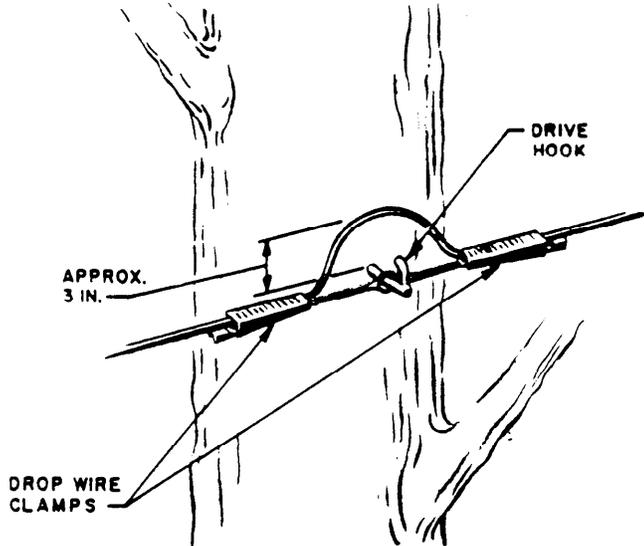

Fig. 15-Straight Run on Large Diameter Tree
5.03 Drive hooks may be used on limbs or trunks of trees having diameters of 6 inches or more. On straight runs or corners, attach the drop wire to the drive hook as shown in Fig. 15 and 16.
5.04 Not more than four drop wire clamps shall be attached to one drive hook, nor a total of three drop wire clamps in one direction for either condition shown in Fig. 15 and 16.